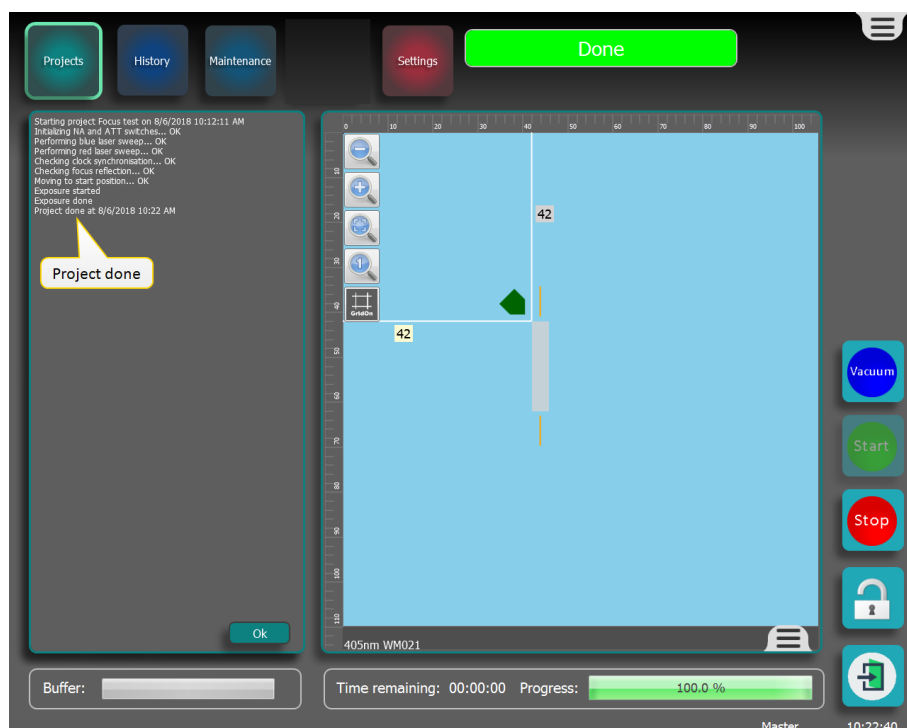

Figure 3-147 Project done
5. Check that the project is done, see **Figure 3-147** below.